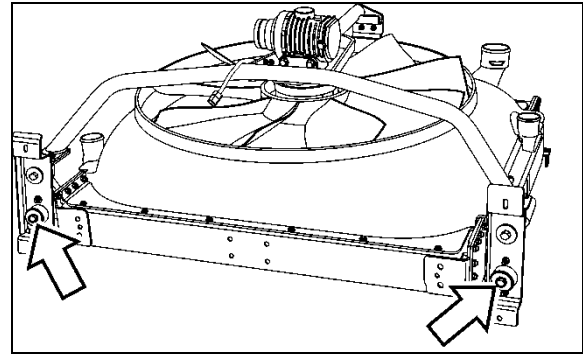

FIGURE 26: REMOVING FASTENERS
1. Wrap the new drive belt around the fan drive mechanism pulley, the idlers and the automatic tensioner idler as shown on figure 26.